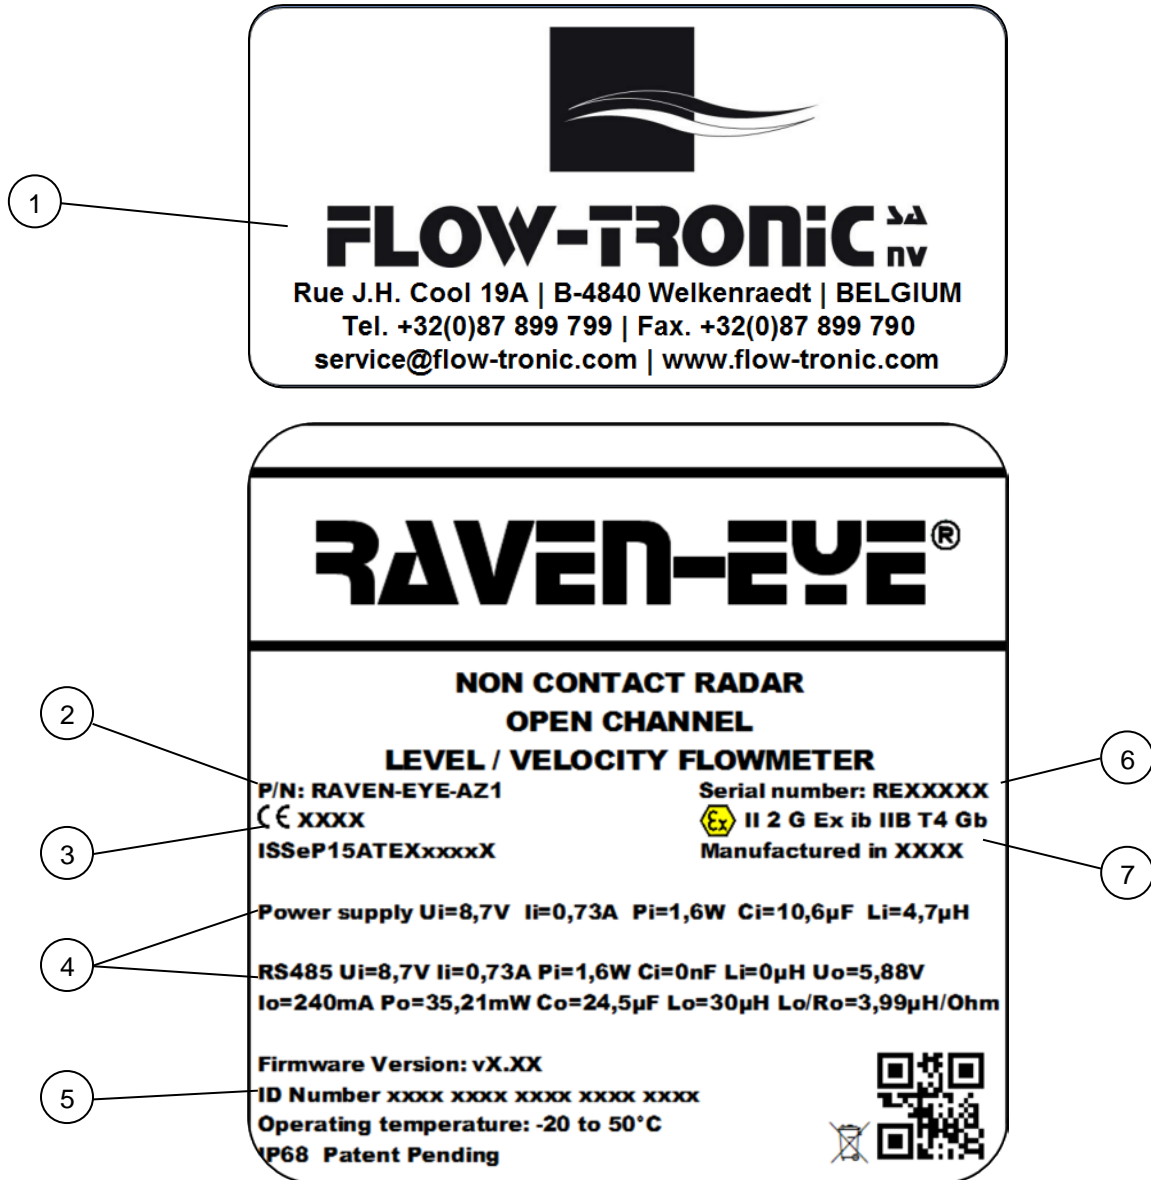

Figure 2: Identification label
- The ID number can be found on the identification label on the sensor (refer to Figure 2) or is shown by means of a pop-up window at every connection to the computer using RTQ-Log.
- The serial number can be found on the identification label on the sensor (refer to Figure 2).